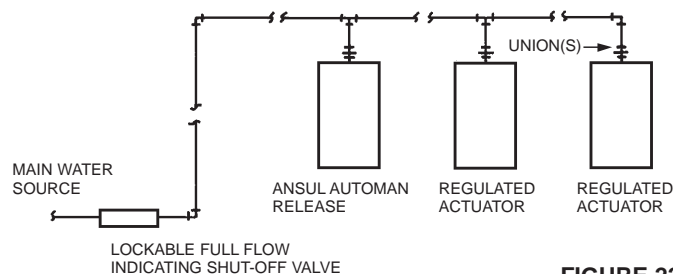

FIGURE 22
- A maximum of three (3) (one release and two regulated actuators) devices can be connected to a common PIRANHA dedicated waterline when all operate simultaneously. See Figure 22.